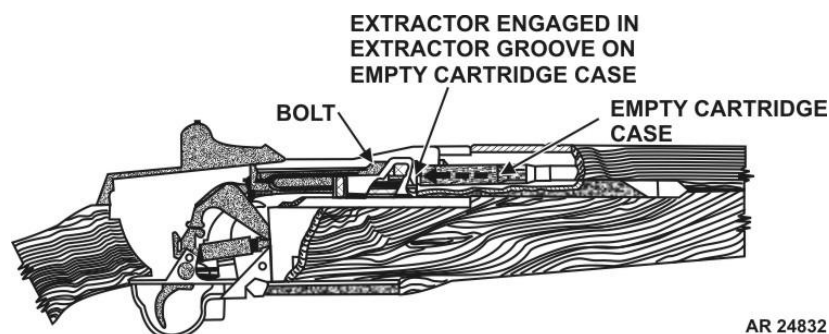

Figure 60. Extracting
- 6) **Extracting.** Extracting is the pulling of the empty cartridge case from the chamber. The extractor, which is engaged with the extracting groove on the cartridge case withdraws the empty case as the bolt moves to the rear (fig 60).